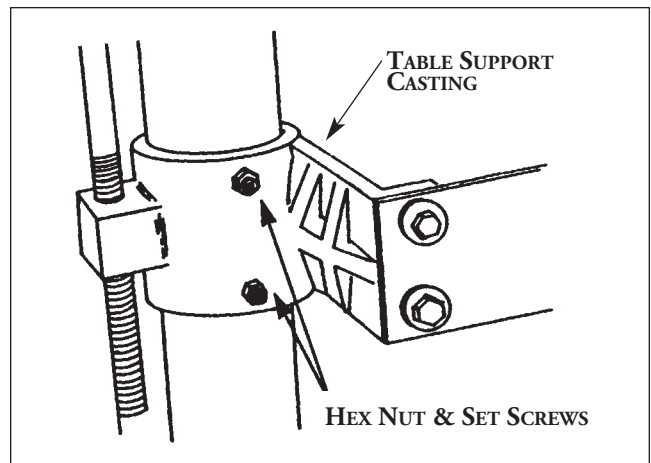
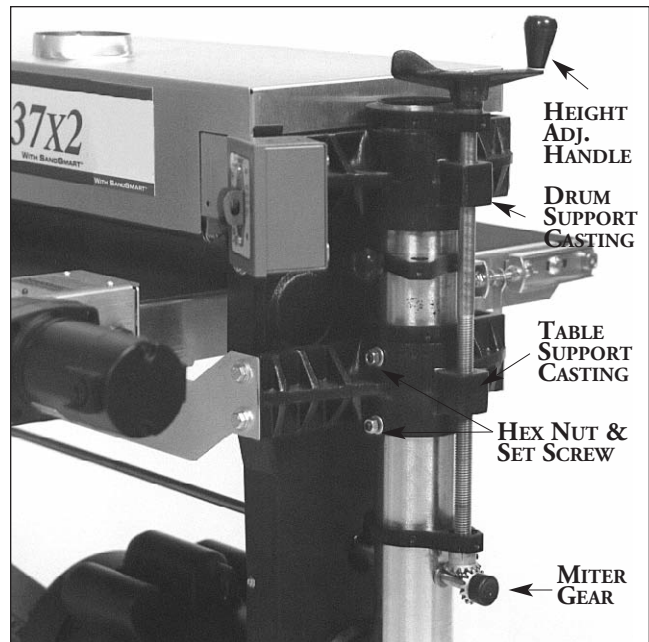

Fig. 3. Table support casting and set screws.
Fig. 11. Table height adjustment mechanism.
2. Loosen the hex nut and set screws on the table support castings (Fig. 3). The set screws on the table support castings have been tightened at the factory to eliminate free-play between the table support casting and the column tube during shipment. There are two table support castings on the SUPERMAX, one each for the right and left column tubes. Important: These set screws are tightened for shipping and must be loosened and readjusted before operating either the height adjustment mechanism or the conveyor drive.
The table height and depth of cut is controlled by the height adjustment handle (see Fig. 11). Turning the handle raises or lowers both sides of the table simultaneously by transferring the handle rotation through the miter gear and cross bar assembly.
Important: Before using the height adjustment, be sure to loosen both the set screws located on the front of both table support castings (see Fig. 3 and Fig. 11) to allow the table support to slide on both column tubes. These set screws are tightened for shipping and must be loosened and readjusted to
allow the table support castings to move freely on the column support tubes. Readjust the set screws just so they eliminate free-play between the table support casting and the column tube. To properly adjust, tighten the set screws (see Fig. 3) only finger-tight so they lightly touch the column tubes. Then hold each set screw in position with an Allen wrench and tighten the hex nut.